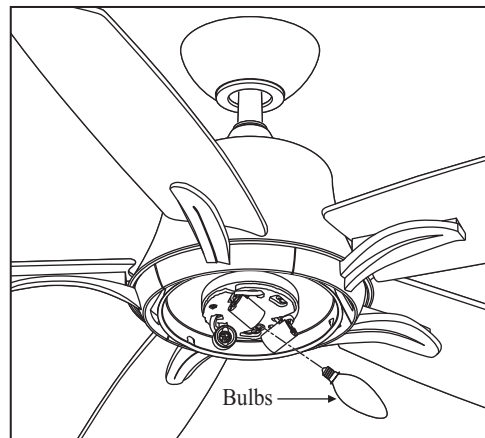

Figure 22
4. Install 3 x 40W candelabra bulbs (included). (Fig. 22)